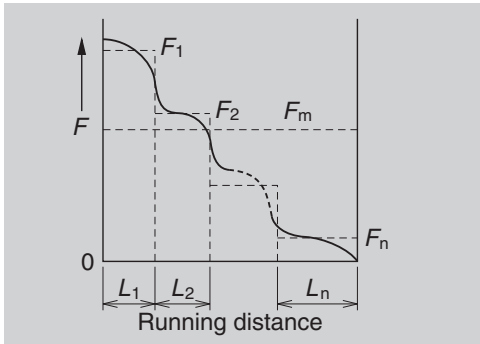

Fig. 2.3 Stepwise load change
##### ① When load and running distance vary stepwise (Fig. 2.3)